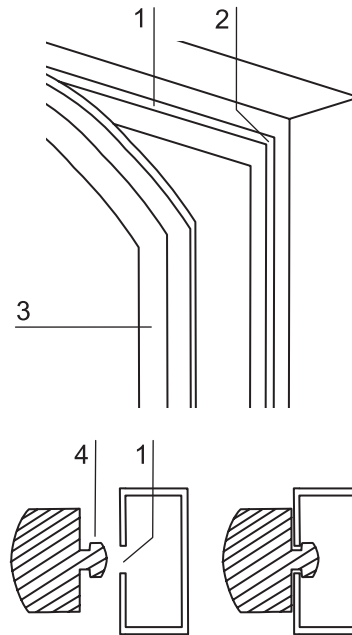

Fig.23: Door seal replacement
1. **Fig.23:** Pull magnetic seal [3] out of the guide slot [1].